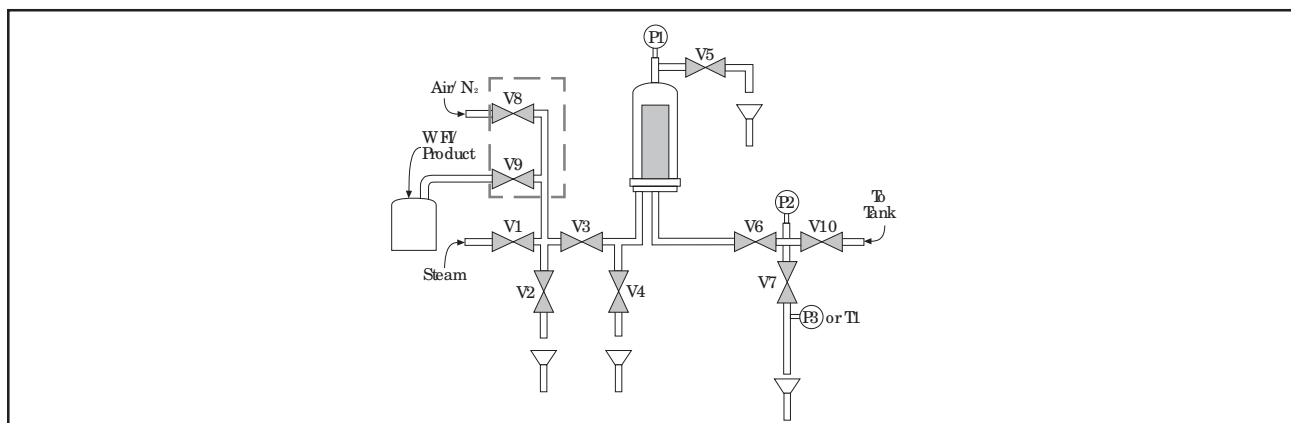

Figure 4-2: Typical sterile filter cartridge and housing assembly for pressure tank wetting
This wetting procedure is for cartridges and capsules. (See Figure 4-2.) The figure illustrates the cartridge wetting process. However, you could easily replace the cartridge/housing surrounded by dashes with a capsule filter.
- Water (or validated alternate wetting fluid) can deliver at least 1 liter/minute per ft2 of effective filter surface area at 20 psig (1.4 bar). This can be supplied by using a pressure vessel or a peristaltic pump (See V9 in Figure 4-2).